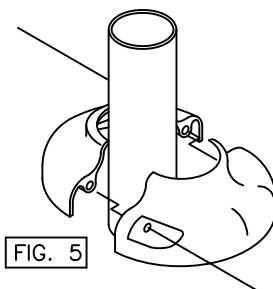

FIG. 5
If mounting plate covers (E) are used, place halves around legs and secure with 2 (K) screws, see FIG. 5. Draw to a snug fit being careful not to over tighten.